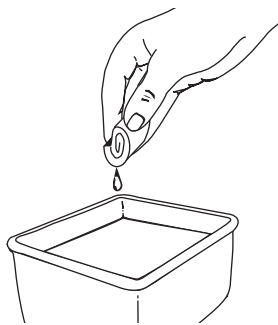

Fig. 28
3. Wash the filter in detergent and water (Fig. 28). Rinse the filter thoroughly and allow it to dry.